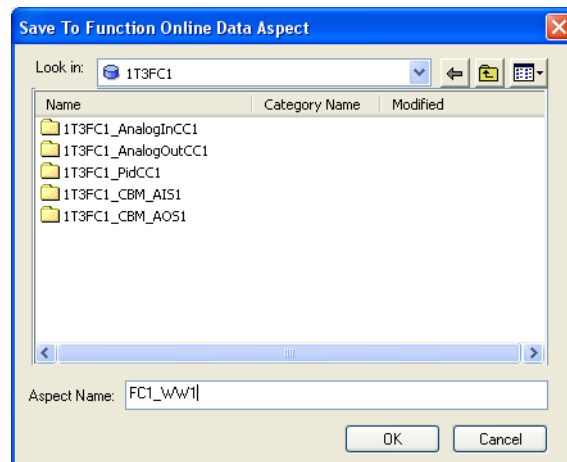

Figure 107. Save Watch Window Configuration to Function Online Data Aspect
- **Save As** - Offers the possibility to store the Watch Window data in a (new) Function Online Data aspect (of any object), see Figure 107.